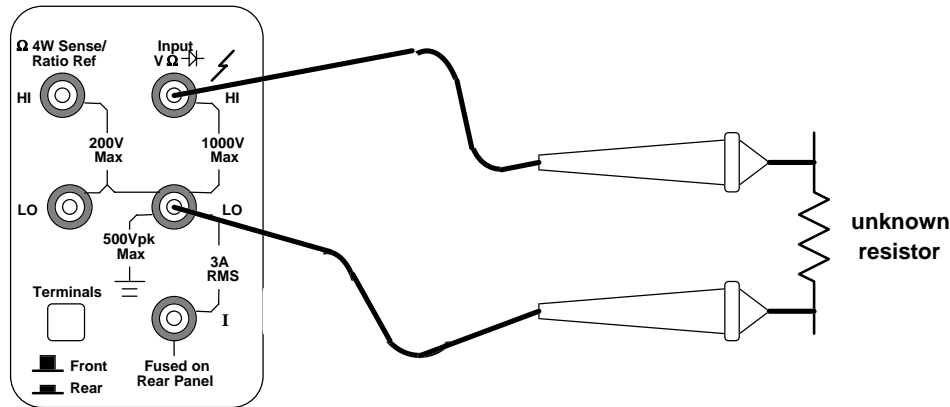

Figure 4 Resistance measurement (two-wire). The probe leads are connected to the rightmost HI and LO terminals on the DMM.
- Connect leads to the **HI** and **LO** terminals marked **1000 V Max** (see Figure 4). It is best to measure resistance before placing the resistors in the circuit board (otherwise, you may be measuring the resistance of some parallel combination of elements).